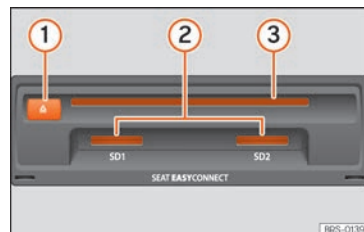

Fig. 176 Slots for data storage devices in the glove compartment.
- Insert a CD into the slot »» Fig. 176 ③ with the printed side facing upwards, until the equipment inserts it automatically.
Insert the compatible memory card, with the cut corner first and the contacts facing down, into slot **» Fig. 176 ②** or **» Fig. 140 ⑨**, until it clicks into place.